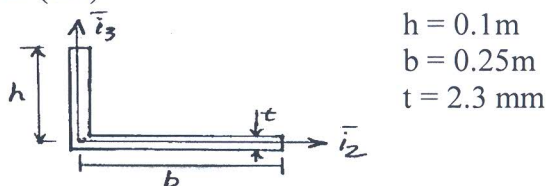

Fig Q4(b)
- b. Find the principle centroidal bending stiffness of the beam shown in Fig Q4(b). The axial stiffness of section is  $S = Et$  (bth) (08 Marks)